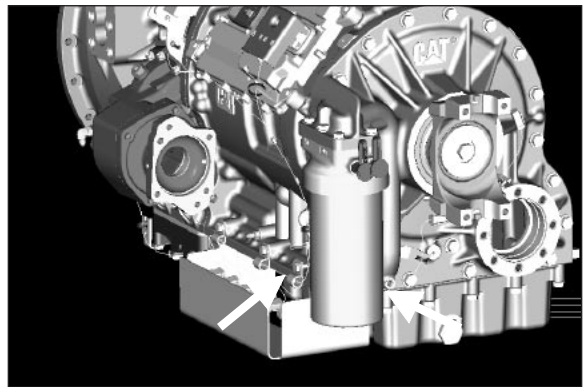

Fig. 7
NOTE: There are two (2) high pressure ports available. Use the port located on the driver's side of the transmission unless there is an interference issue with a pump or driven object (**Fig. 7**).